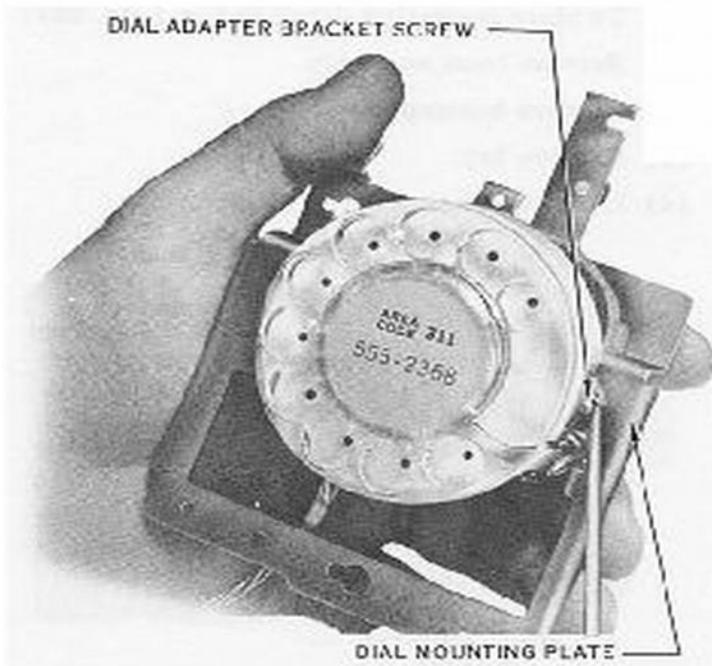

Fig. 27 – Holding Dial and Dial Mounting Bracket
- (7) Hold dial mounting plate in hand (Fig. 27).
- (8) Insert screwdriver blade between dial and dial mounting plate with tip of blade under dial adapter bracket screw (Fig. 27). No downward pressure is required.